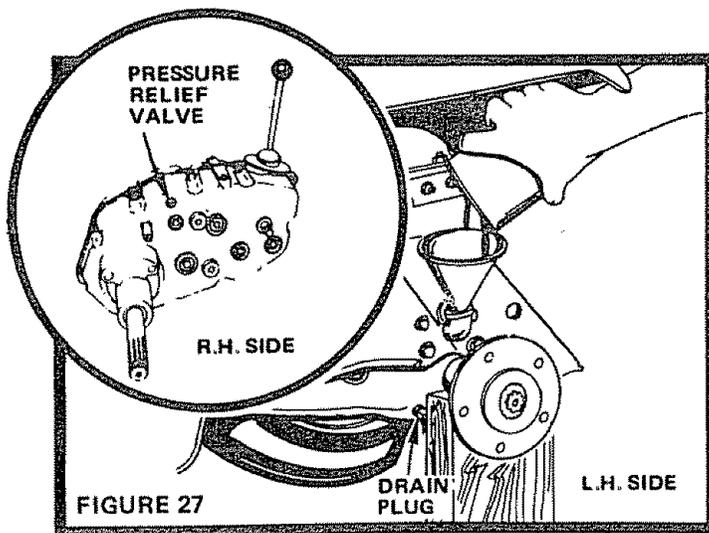

FIGURE 27
- b. Check Pressure Relief Valve (Fig. 27 - Inset) located on R.H. side near top. It should spring completely closed when pulled out by hand and released.
- b. Drain Transaxle Oil by removing Drain Plug (Fig. 27) and catching Oil in suitable container. Replace Drain Plug.
- c. Refill Transaxle with S.A.E. 30 (SC, SD or SE) Motor Oil. Capacity is 5 quarts. Pressure Relief Valve (R.H. side of Transaxle) (Fig. 27 - Inset) may be held open to allow Transaxle to fill more quickly.